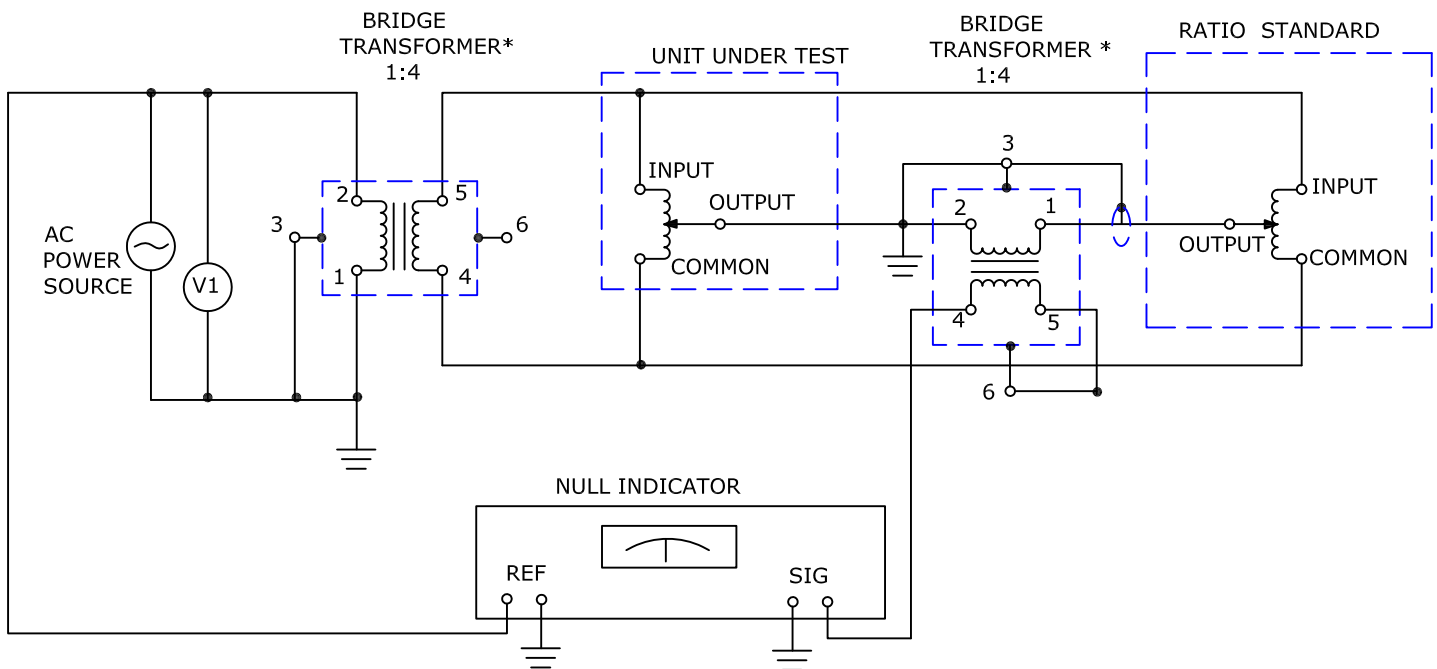

Figure 7-3. Ratio Accuracy Test Setup
- a. Use test setup shown in Figure 7-3.